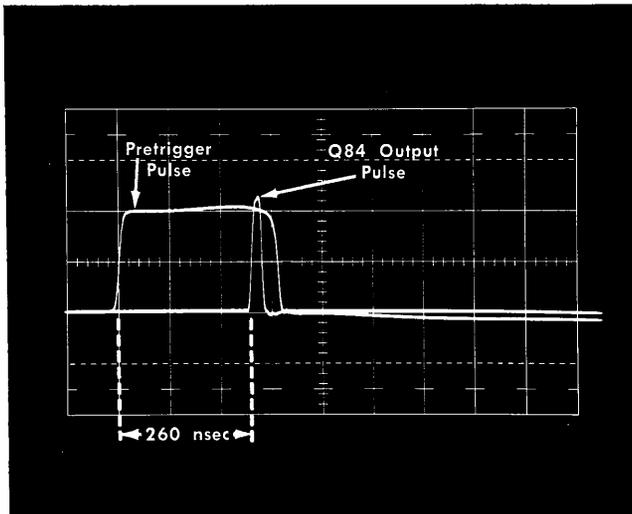

Fig. 5-8. Double exposure of Pretrigger Pulse and Q84 Output Pulse with VARIABLE control set to MAX and R51 (MAX DELAY) adjusted correctly.
g. Adjust the oscilloscope positioning controls to position the 50% level of the pulse rise at the second vertical graticule line (see Fig. 5-8). Now do not change the triggering or position control settings of the test oscilloscope until both the MAX DELAY and MIN DELAY adjustments have been calibrated.
Pretrigger Pulse previously observed. (The rise should occur 3.6 major divisions from the left edge of the graticule.) See Fig. 5-8.